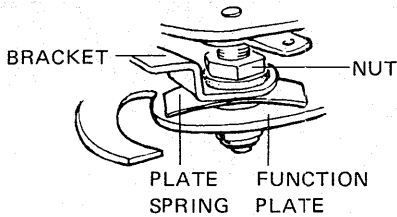

Fig. 13
1. If tonearm does not move smoothly over initial record grooves, see Fig. 13. There may not be enough friction between bracket plate spring and function plate because of dirt or oil.